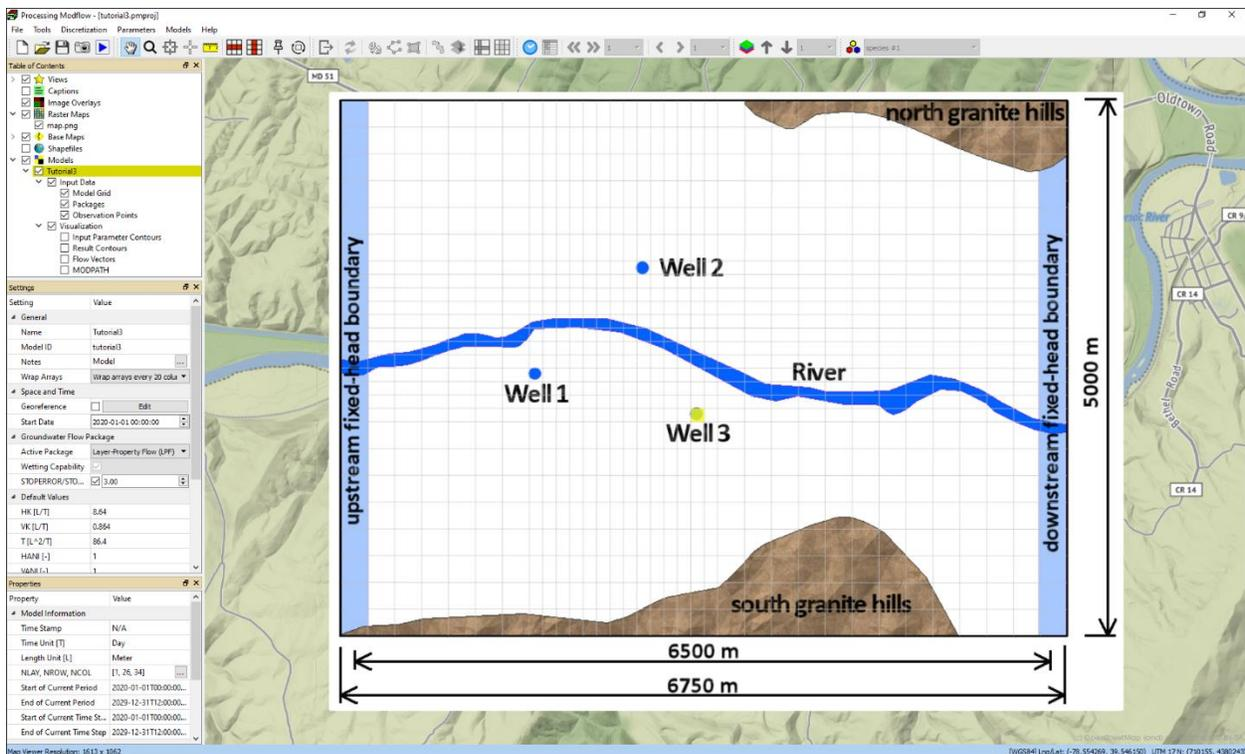

Figure 7. The model grid after refinement
3. Click  (or select Tools > Finish Edit or press Ctrl + F) to stop the Grid Editor and save the changes. As shown in Figure 7, the refined model grid should have 3 layers, 26 rows, and 34 columns.